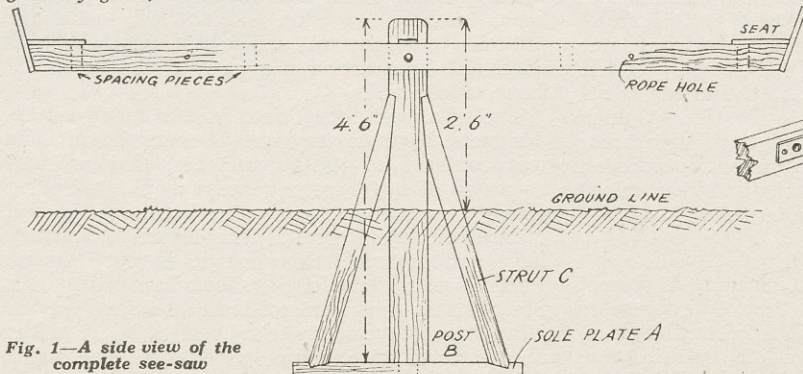
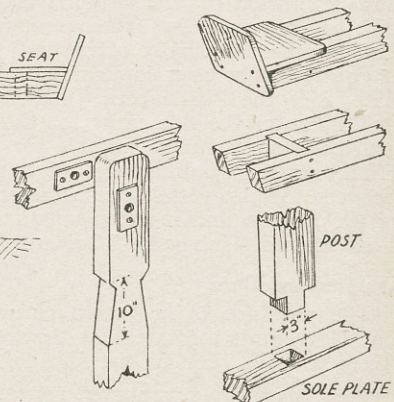

Fig. 1—A side view of the complete see-saw
Fig. 2—The beam fixing
The construction of post can be gathered from the side view Fig. 1 and from the details at Fig. 2. The sole plate (A) is 3ft. long by 3ins. wide by 3ins. thick, and recesses are to be cut in 2ins. from the ends, into which are framed the struts C.
These are 3ft. 9ins. by 3ins. square, and the ends are cut to the shape shown to fit accurately into the post and plate. The post (B) is of 6ins. by 3ins. stuff, 4ft. 8ins. long. The bottom of the posts has a stub tenon (Fig. 2) to fit into a corresponding mortise cut in the sole plate. Get the plate and the post together first before cutting the struts.
one bolt hole (Fig. 2). Two of these plates are screwed to the post, while one each will be put on the insides of the beams. The post and plate will be sunk into the ground to a depth of 2ft. 2ins. All the wood below ground should be well creosoted to preserve it, and the top part might be painted.